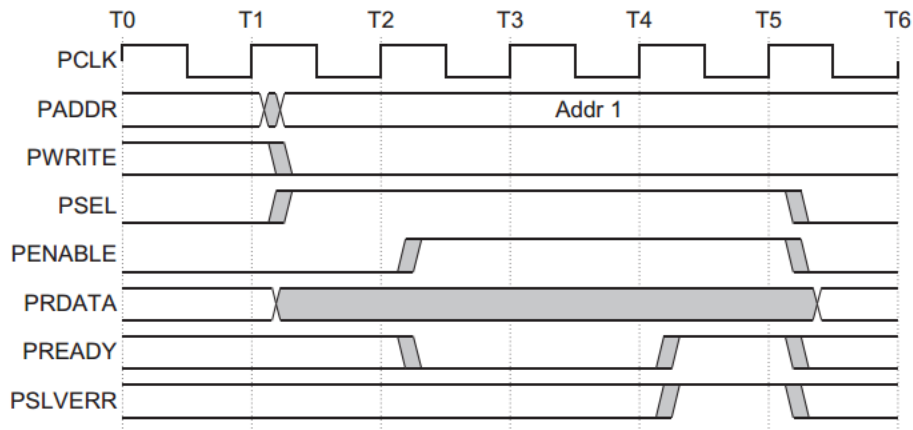

Figure 2-7 Example failing read transfer
A read transfer can also be completed with an error response, indicating that there is no valid read data available. Figure 2-7 shows a read transfer completed with an error response.
- Error response in read transfer timing chart – Figure 2-7